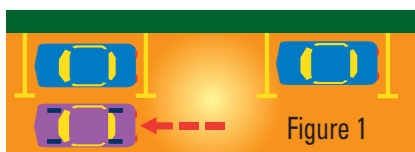

Figure 1
- (ii) Position the vehicle parallel with the vehicle parked in front of the empty space and maintain at least two (2) feet from this vehicle. (Figure 1)
- (iii) Align the rear bumpers of both vehicles. (Figure 1)